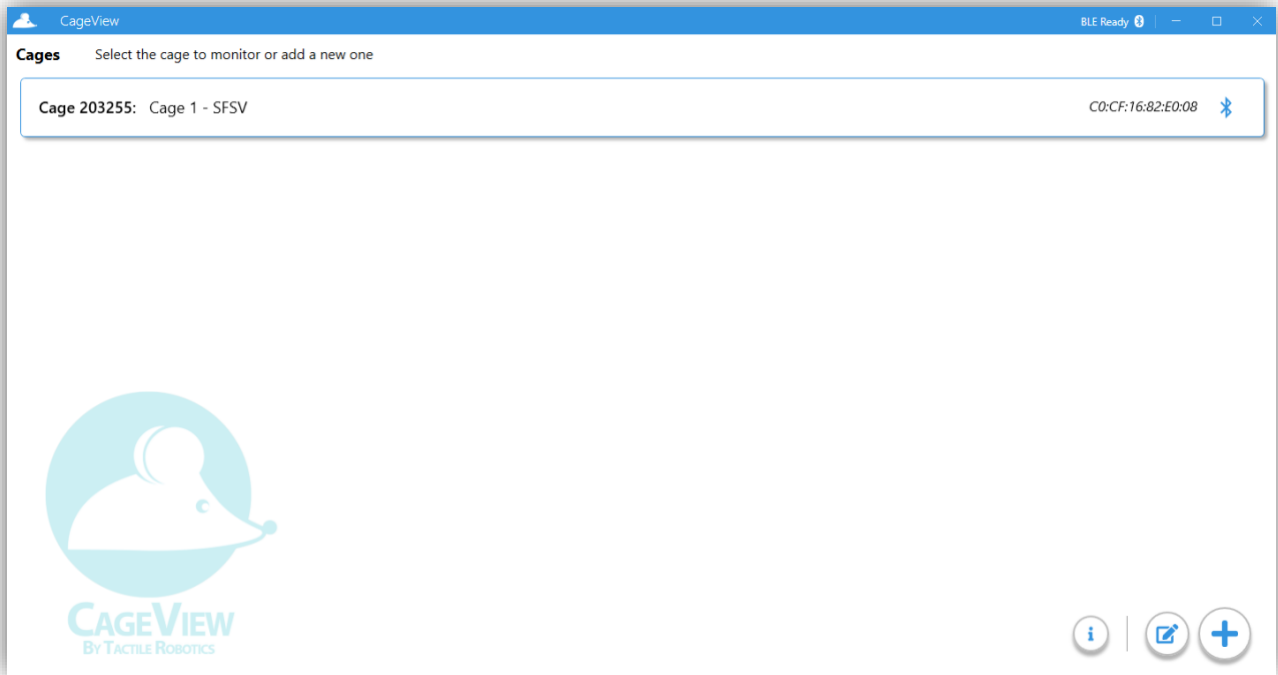

Figure 14. The main window - added the BLE CageView
5.1.10. A typical main window after adding one BLE CageView is shown in **Figure 14**. The given name for the cage and its ID in the App can be seen on the top left side. A corresponding icon indicates each cage connection mode on the far right. A Wi-Fi icon indicates a LAN CageView, while a BLE icon indicates a BLE one. Also, notice the set IP for a LAN CageView and the BLE address of a BLE one.